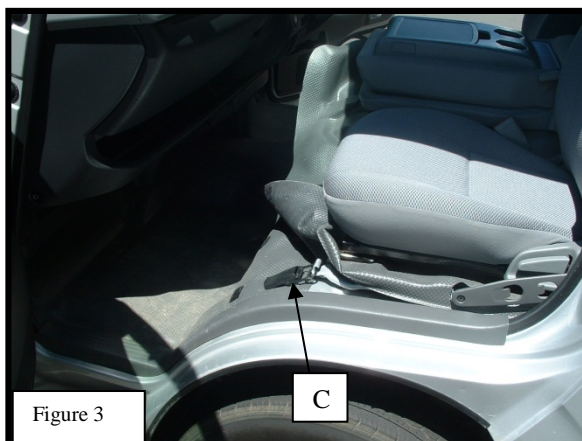
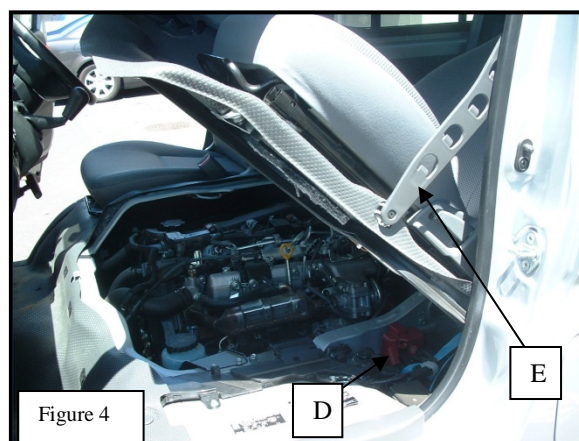

Figure 3
Figure 4
- The vehicle's battery is located beneath the front passenger seat (Figure 4, D). To access, pull floor vinyl seams aside (situated in front of passenger seat and middle console), and locate metal fastening clamps (Figure 3, C). Flip clamps over and lift the base of the seat towards the rear of the vehicle. Clip in place using the strap on the left-hand side of the front passenger seat (Figure 4, E).